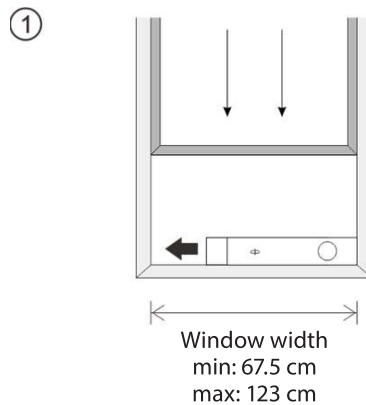

Fig.5
The window slider can be installed either "vertically" or "horizontally". As shown Fig.5 and Fig.5a, check the min. and max. size of the window before the installation.
1. Install the window kit on the window (Fig.5, Fig.5a);